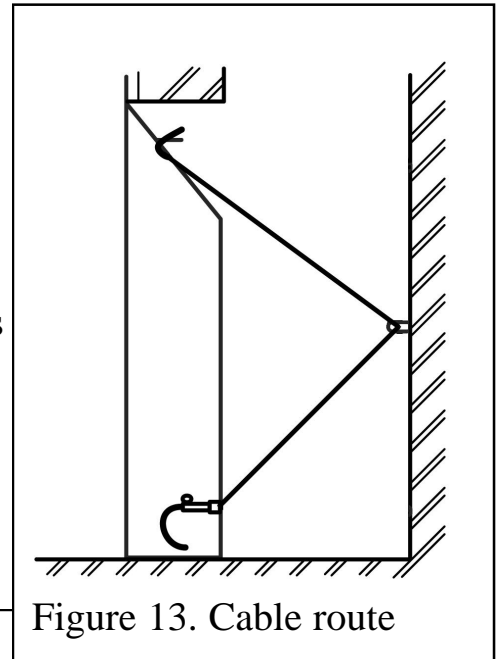

Figure 13. Cable route
6. Thread the cables through the eyebolts in the rear wall. Return the cables through the holes near the bottom corners of the convection box back panel (See figure 13).